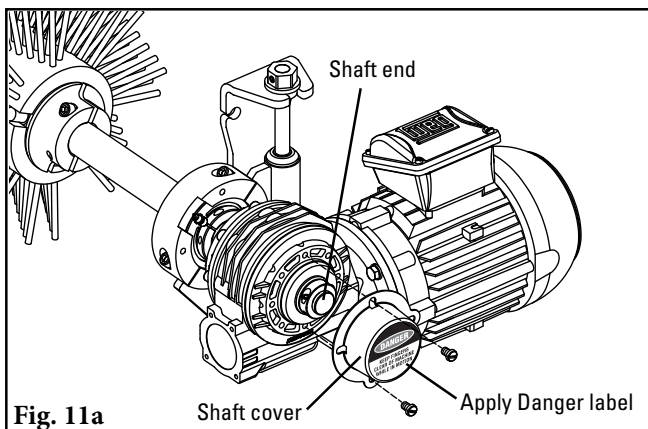

Fig. 11a
11. **Install shaft covers and 'Danger' labels on endcaps.** Cut off excess shaft if necessary (Fig. 11a and 11b).